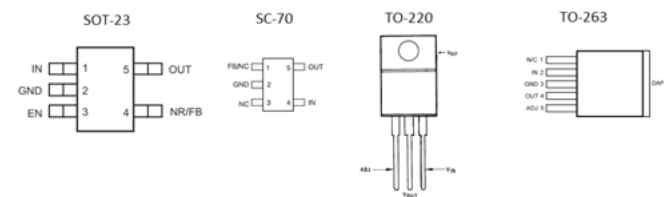

Figure 2: Package differences.
**Figure 2** shows the differences between the four packages.